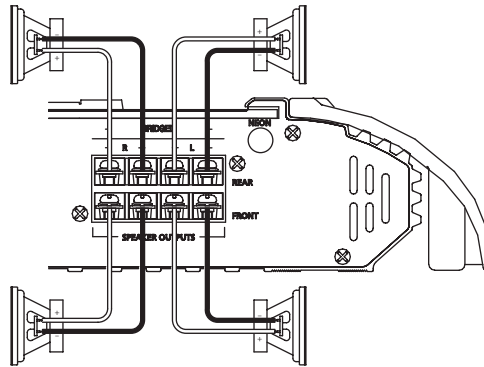

Figure 6. GT075.4 amplifier in 4-channel (stereo) operation to drive front and rear full-range speakers.
The GT075.4 can be set up for stereo 4-channel, 3-channel or bridged 2-channel operation, as shown in Figures 6 through 8.
**NOTE:** For simplicity, Figures 6 through 8 do not show power, remote and input connections.